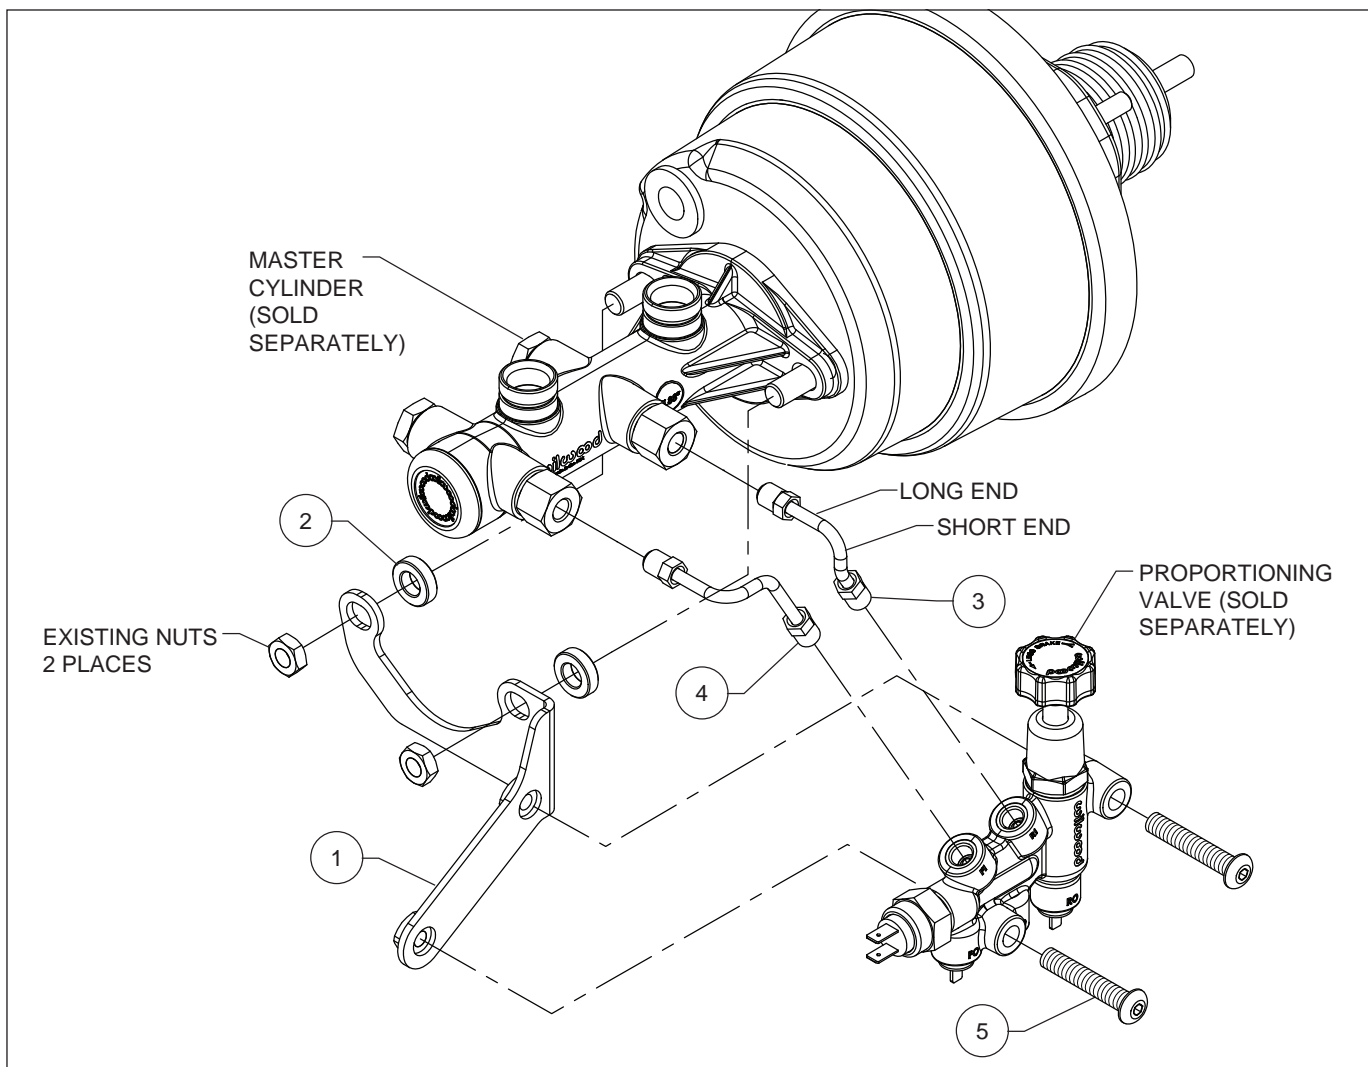

Figure 2. Proportioning Valve Bracket Kit Installation
- Mount the bracket (1) to the master cylinder using spacers (2) and existing nuts used to mount the master cylinder, as shown in Figure 2. Finger tighten.
- Install the short tube (3), "short end" into the fluid inlet "RI" in the proportioning valve, finger tighten. Install the long tube (4) into the "FI" fluid inlet, finger tighten.
- Connect the fluid tubes to the master cylinder, finger tighten. **NOTE:** If connecting to a previously installed master cylinder, be sure to plug the fluid inlets immediately when disconnecting the existing fluid lines and use a container to catch any fluid that may leak. Mount the proportioning valve to the bracket (1) using bolts (5), finger tighten. Check to be sure that everything fits and the tubes do not bind.